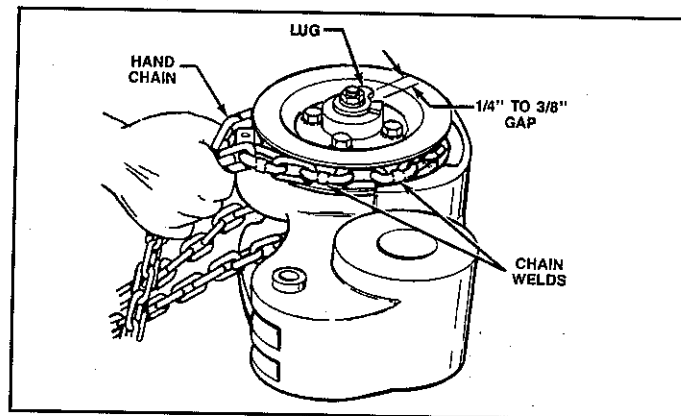

Figure 7-3. Positioning Brake Stop Lug.
(4) Lube hub face lightly, allowing counterbores to accumulate reserve amount. Screw hand chain wheel and hub assembly onto acme thread of brake flange by turning clockwise until brake pawl and ratchet click. Continue turning until boss on chain wheel hub is at its closest position to upper hook.
(5) Install brake stop lug on pinion shaft, positioned so that gap between lug and boss on hub is 1/4" to 3/8" wide, as shown in Figure 7-3. It may be necessary to remove stop lug and turn it over on shaft to achieve the required gap.
The lug must be counterclockwise of the boss, as shown in Figure 7-3, for proper brake action.
(6) Install flat washer and elastic stop nut on threaded end of pinion shaft to secure stop lug. Early model chain blocks have external retaining ring in place of the flat washer and stop nut.
d. When installing hand chain on chain wheel, position chain so that welds, Figure 7-3, are away from bottom of chain pockets as shown. Hold hand chain in place on chain wheel and install chain wheel guide cover. Secure cover to frame with three socket head cap screws and lockwashers.